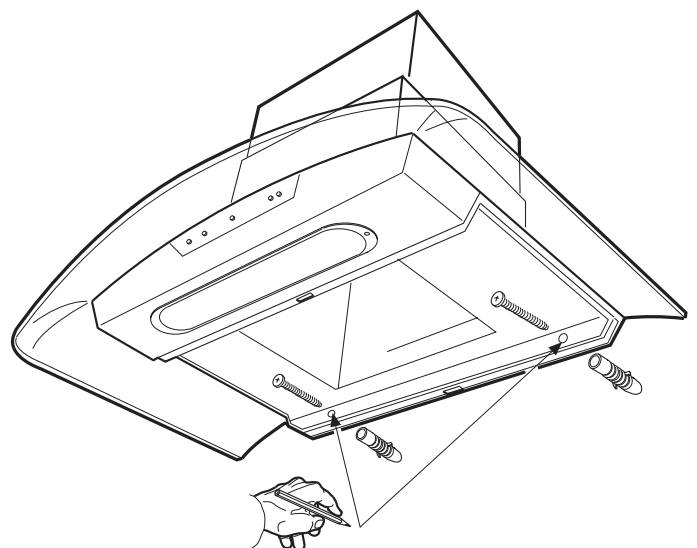

Fig. 6
- From the inside of the hood mark on the wall the point corresponding to the hole which will be used to fix definitively the hood. (Fig. 6)
- Drill two hole (Ø 8mm) and fit two dowels. (Fig. 6)
- From inside of the hood insert the definitive fixing screws. (Fig. 6)